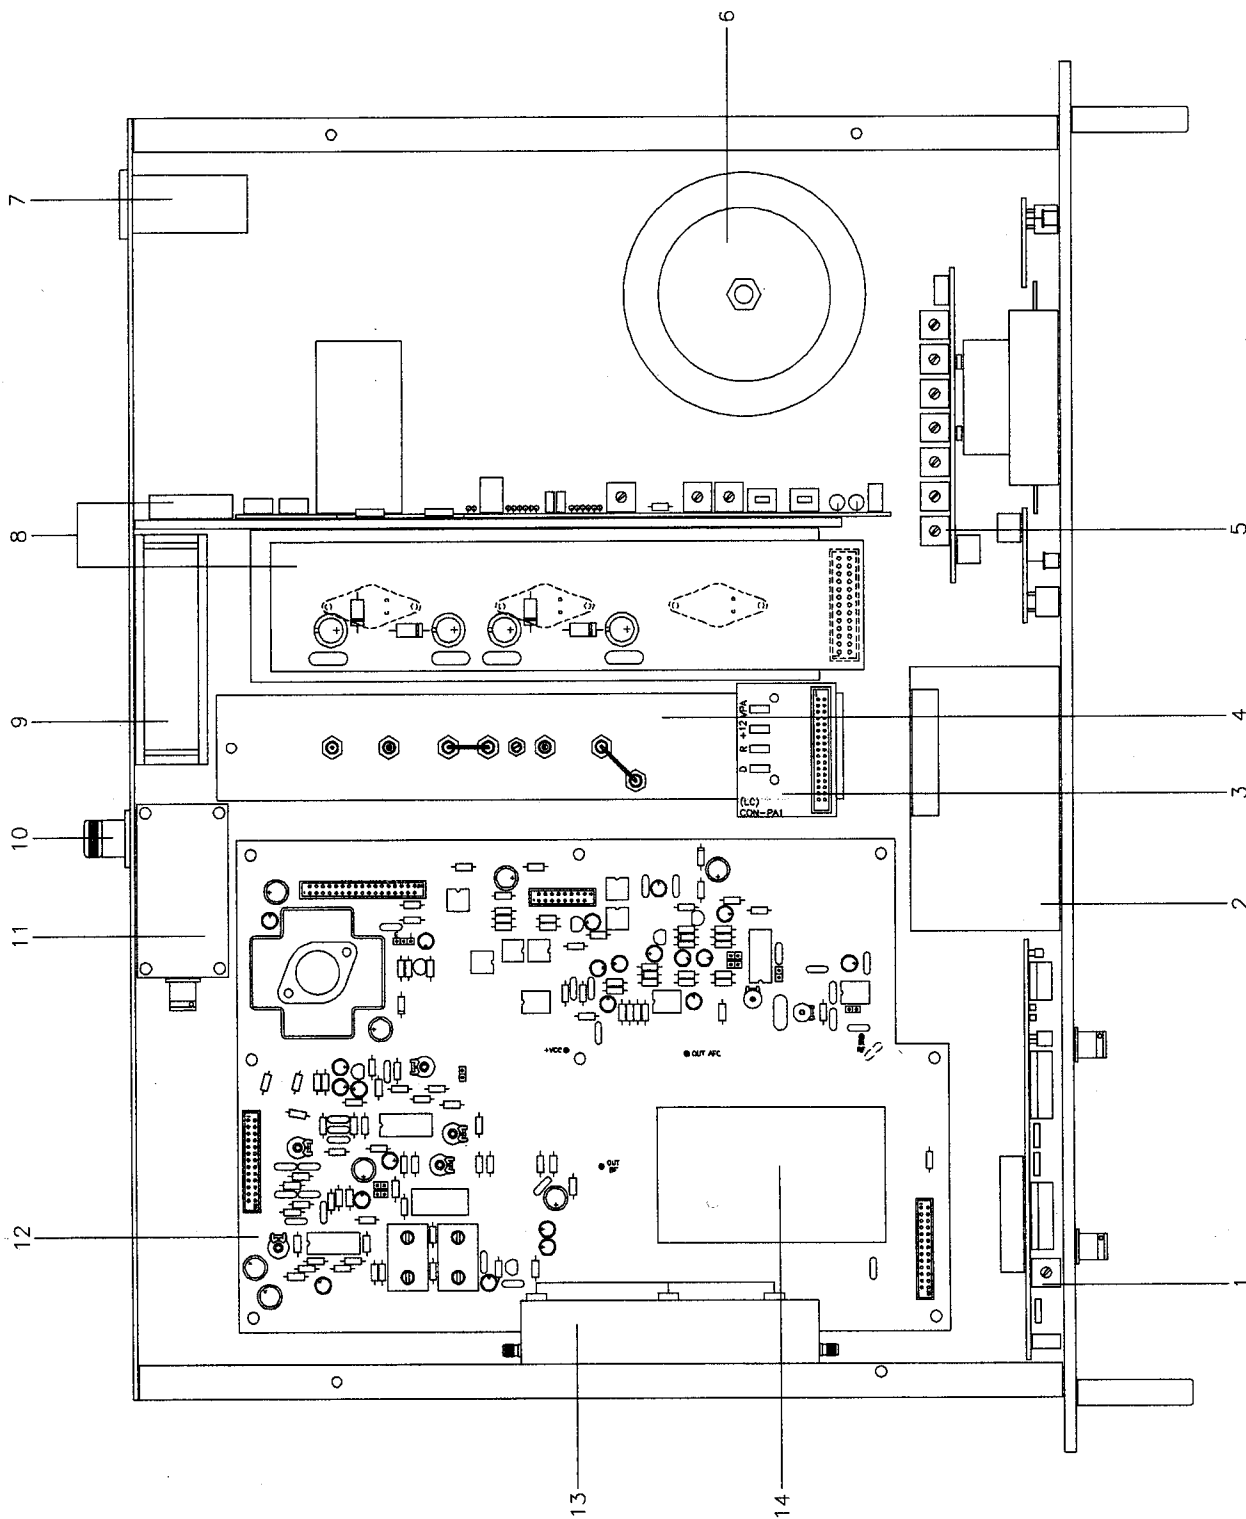

FIG. 3B
**TOP VIEW DESCRIPTION OF PTRL-NV/2 2W (Fig.3B)**